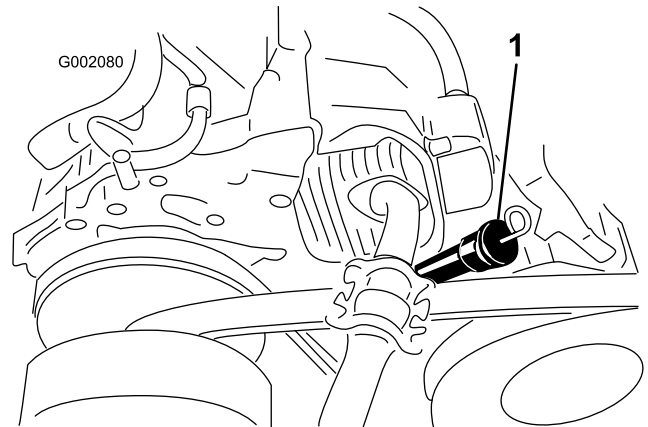

Figure 41
8. Clean around the oil dipstick and fill spout, and remove the dipstick (Figure 41).
9. Pour the specified oil into the into the filler spout until the oil level is up to the Full mark on the dipstick (Figure 41).
10. Insert the dip stick fully into the fill spout, remove the dipstick, and check the oil level (Figure 41).
11. Install the dipstick into the fill spout until the dipstick is firmly in place (Figure 41).